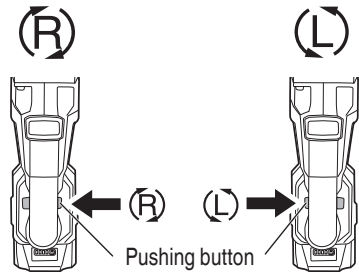

Fig. 15
6. Confirm the direction of bit rotation (Fig. 15)
The bit rotates clockwise (viewed from the rear side) by pushing the R-side of the pushing button. (Fig. 15)